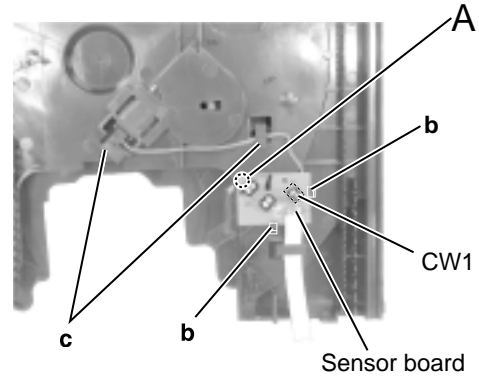

Fig.6
■Removing the sensor board / the turn table motor assembly (See Fig.6 to 8)